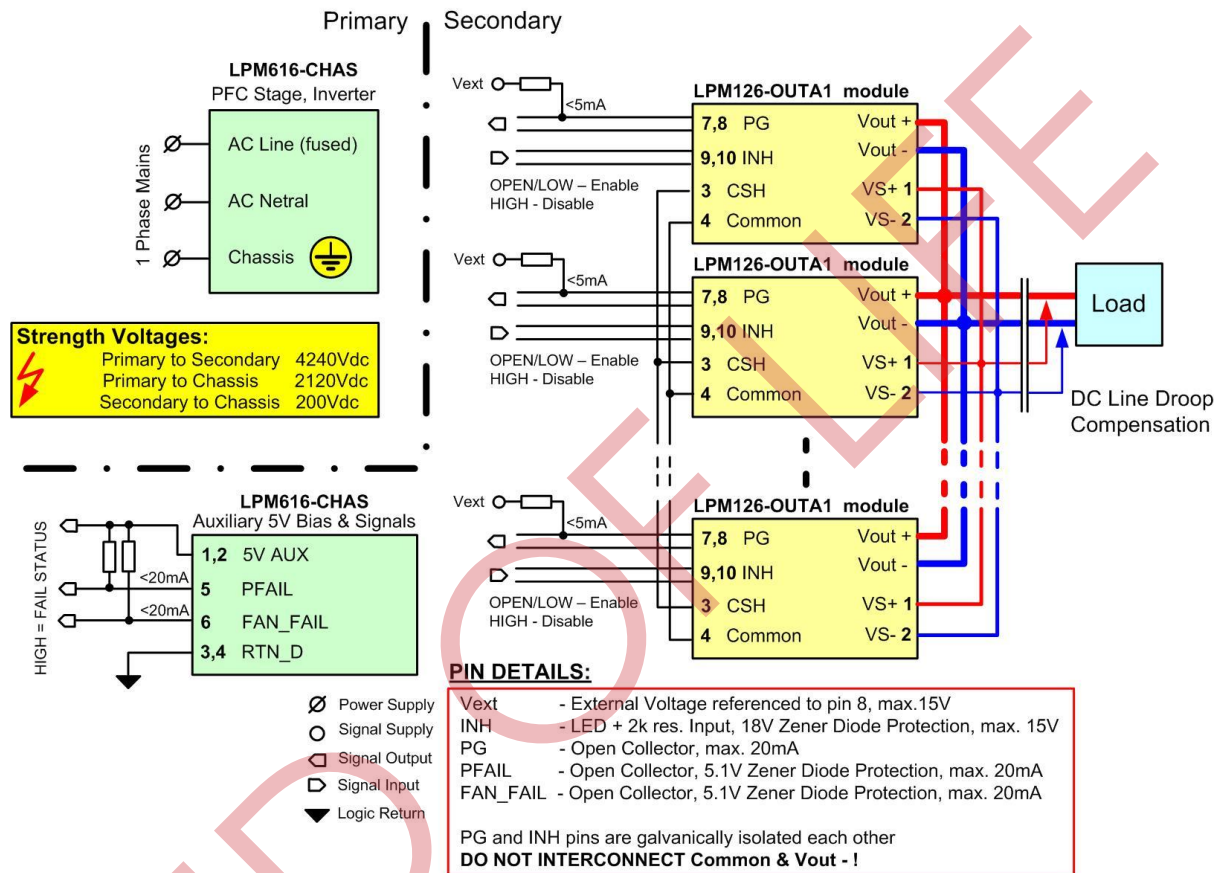

Figure 15. LPM616 – Paralleling Connection Diagram for LPM126 Modules
- ³ The interconnection is shown in *Figure 15* (especially all pins 3 - CSH and all pins 4 - Common must be reconnected).